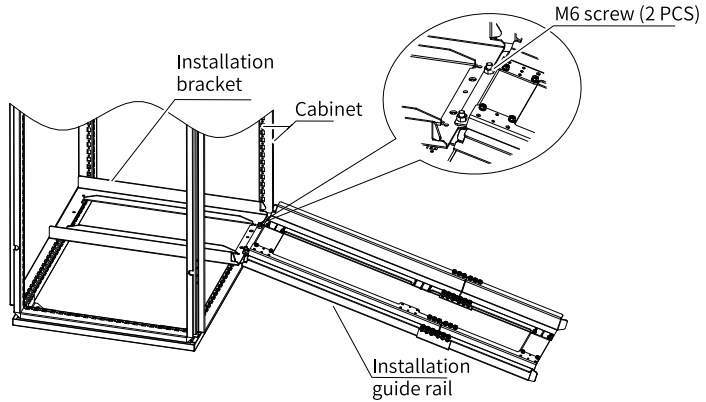

Figure 2-23 Mounting the guide rails on the cabinet
b. Align the two round holes at the front end of the mounting rail with the screws of the mounting bracket, and then lock the guide rail to the cabinet with two M6 nuts, as shown in "Figure 2-23 " on page 48 .